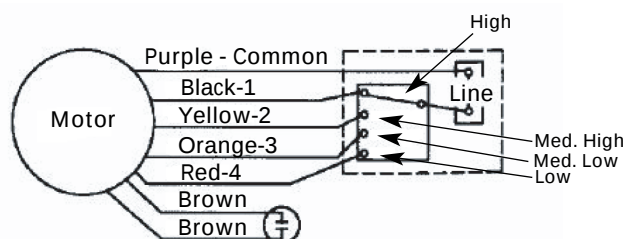

Figure 2 – Wiring Diagrams
- For Models 1XJX9, 1XJY1, 1XJY2, 1XJY3 and 1XJY4, refer to Figure 2, page 3 for wiring.